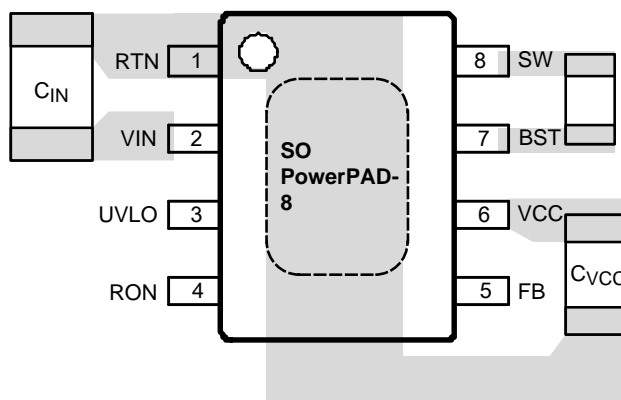

Figure 24. Placement of Bypass Capacitors
1. C_{IN} : The loop consisting of input capacitor (C_{IN}), V_{IN} pin, and RTN pin carries switching currents. Therefore, the input capacitor should be placed close to the IC, directly across V_{IN} and RTN pins and the connections to these two pins should be direct to minimize the loop area. In general it is not possible to accommodate all of input capacitance near the IC. A good practice is to use a 0.1- μ F or 0.47- μ F capacitor directly across the V_{IN} and RTN pins close to the IC, and the remaining bulk capacitor as close as possible (see Figure 24).
2. C_{VCC} and C_{BST} : The V_{CC} and bootstrap (BST) bypass capacitors supply switching currents to the high and low side gate drivers. These two capacitors should also be placed as close to the IC as possible, and the connecting trace length and loop area should be minimized (see Figure 24).